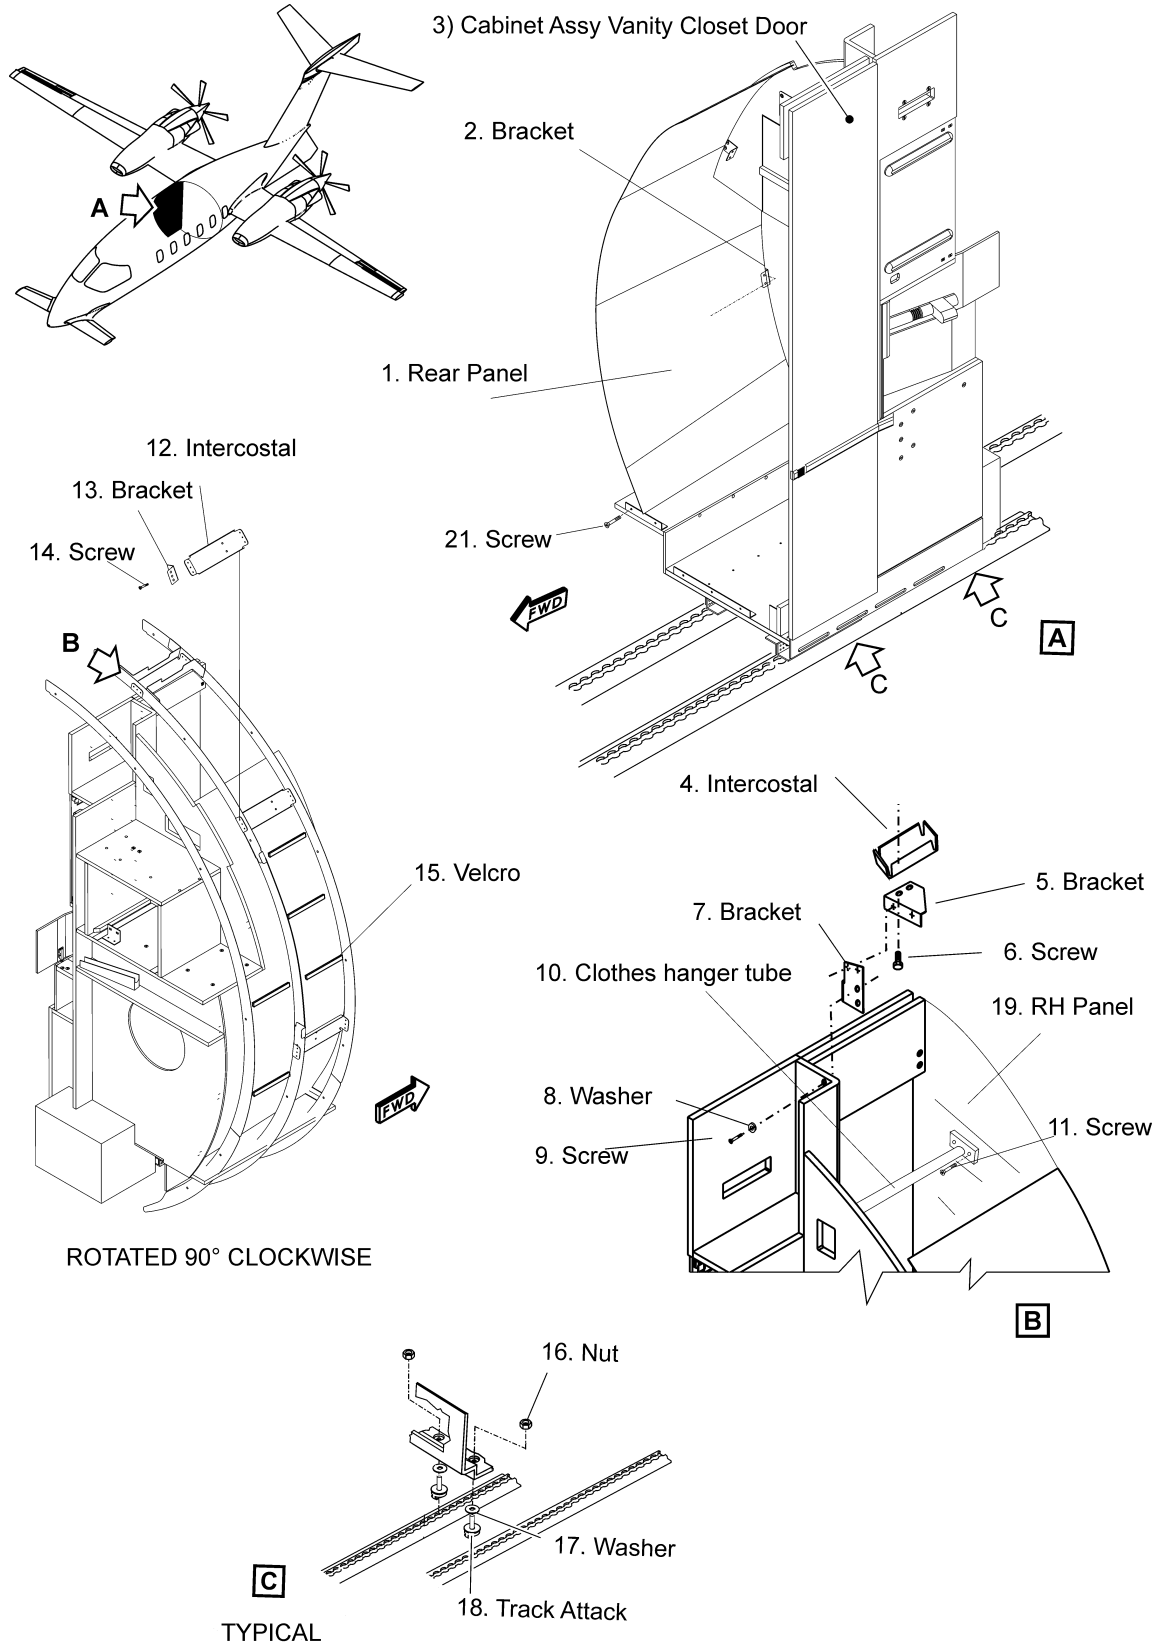

Fig. 220 - AFT Vanity Console (with Sink) (Options) - Removal / Installation
30. Cabinet Vanity Closet (OPTIONS) - Removal (Ref to Fig. 220)
- (5) Remove the two screws (10).
- (6) Remove the Left Panel (19) of the Cabinet and the clothes hanger tube (11)
- (7) Remove the screws (7) and the brackets (5) and (7).
- (8) Remove the screws (9) and the washers (8) and remove the bracket (7).
- (9) Remove the screws (20) from the Rear Panel (1)
- (10) Remove the Rear Panel (1).
- (11) Remove the screws (14) and the bracket (13) from the intercostal (12).
- (12) Remove the Nut (16)
- (13) Remove the Cabinet Assy Vanity Closet from the aircraft.
- (14) Remove the Washers (17) and the Track attacks (18) and keep them together in a plastic bag with the nuts (16).
31. Cabinet Vanity Closet (OPTIONS) - Installation (Ref to Fig. 220)